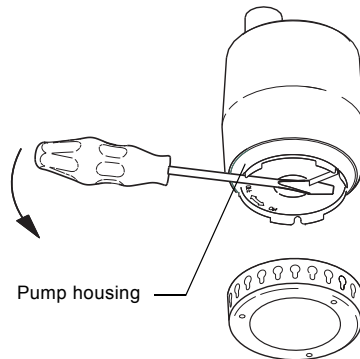

Fig. 12
2. Turn the pump housing 90° counter-clockwise using a screwdriver, see the arrow on the pump housing. Pull off the housing, see fig. 12.